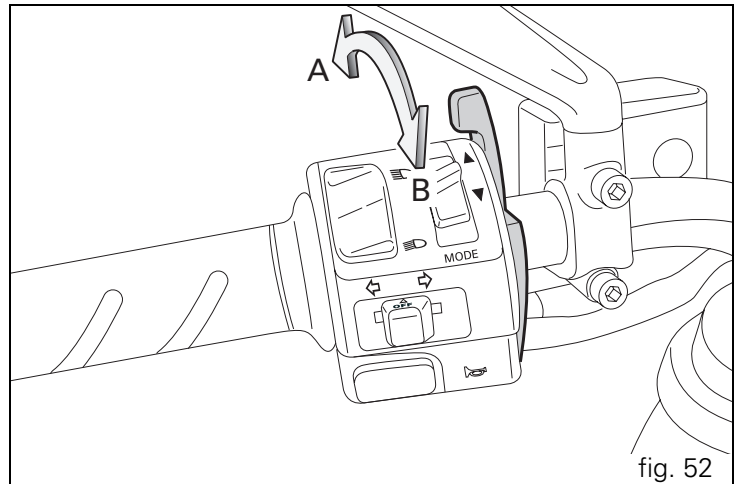

fig. 52
- 2) Move the cold start lever to position (B, fig. 52).
5) Then, as the engine warms up, move the cold start lever gradually towards vertical position (A, fig. 52). Once the engine is at normal running speed, it should idle smoothly with the cold start lever completely closed.